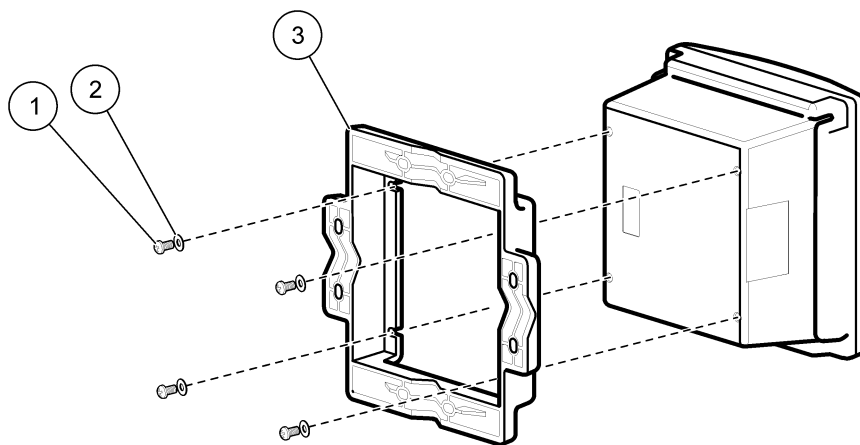

Figure 2 Install bracket
4. Reconnect the mounting bracket to the device if necessary (Figure 2 on page 2).